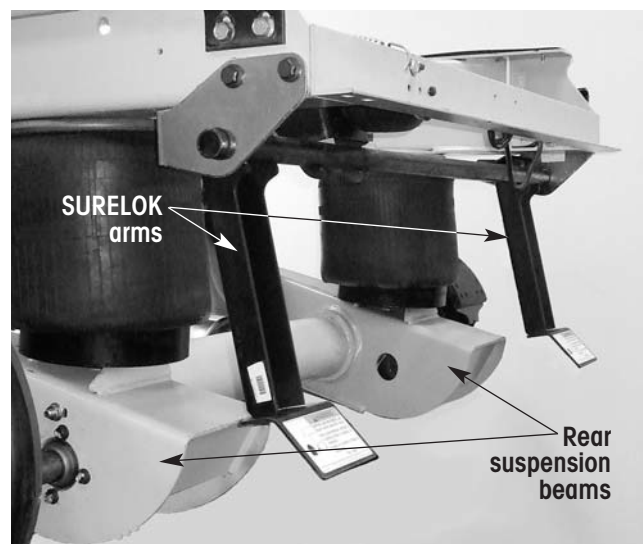

Figure 3. SURELOK disengaged
2. Visually check to ensure that both SURELOK arms are in the disengaged position (i.e., the SURELOK arms must be retracted from and clear of the rear suspension beams as shown in figure 3).
SURELOK® arms must be retracted from and clear of the rear suspension beams as shown in figure 3).
3. Visually check to ensure that both SURELOK arms are in the disengaged position (i.e., the SURELOK arms must be retracted from and clear of the rear suspension beams as shown in figure 3). If SURELOK does not disengage, continue with step 4.